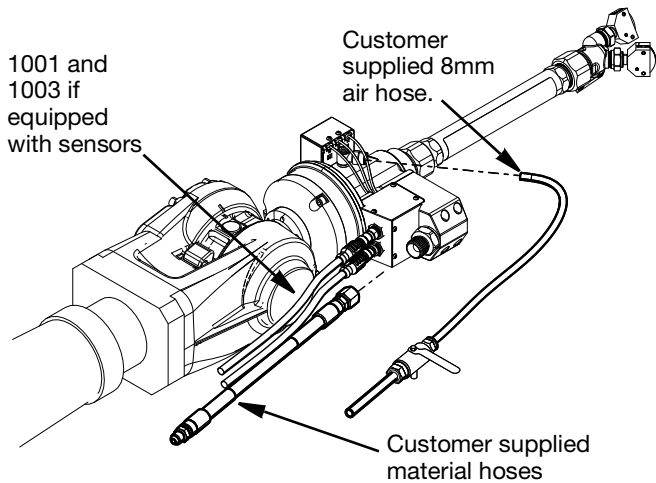

FIG. 10
4. Unplug the cable connectors by unscrewing the fitting on the 5 pin cable connector (1001) and 8 pin cable connector (1003) if fitted. See FIG. 10.